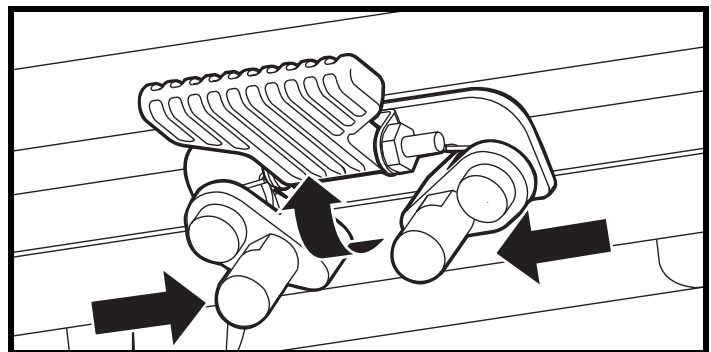

Figure 13. Seat Height Adjustment - Seat Latch Safety
3. Flip up the seat latch safety. See figure 13.